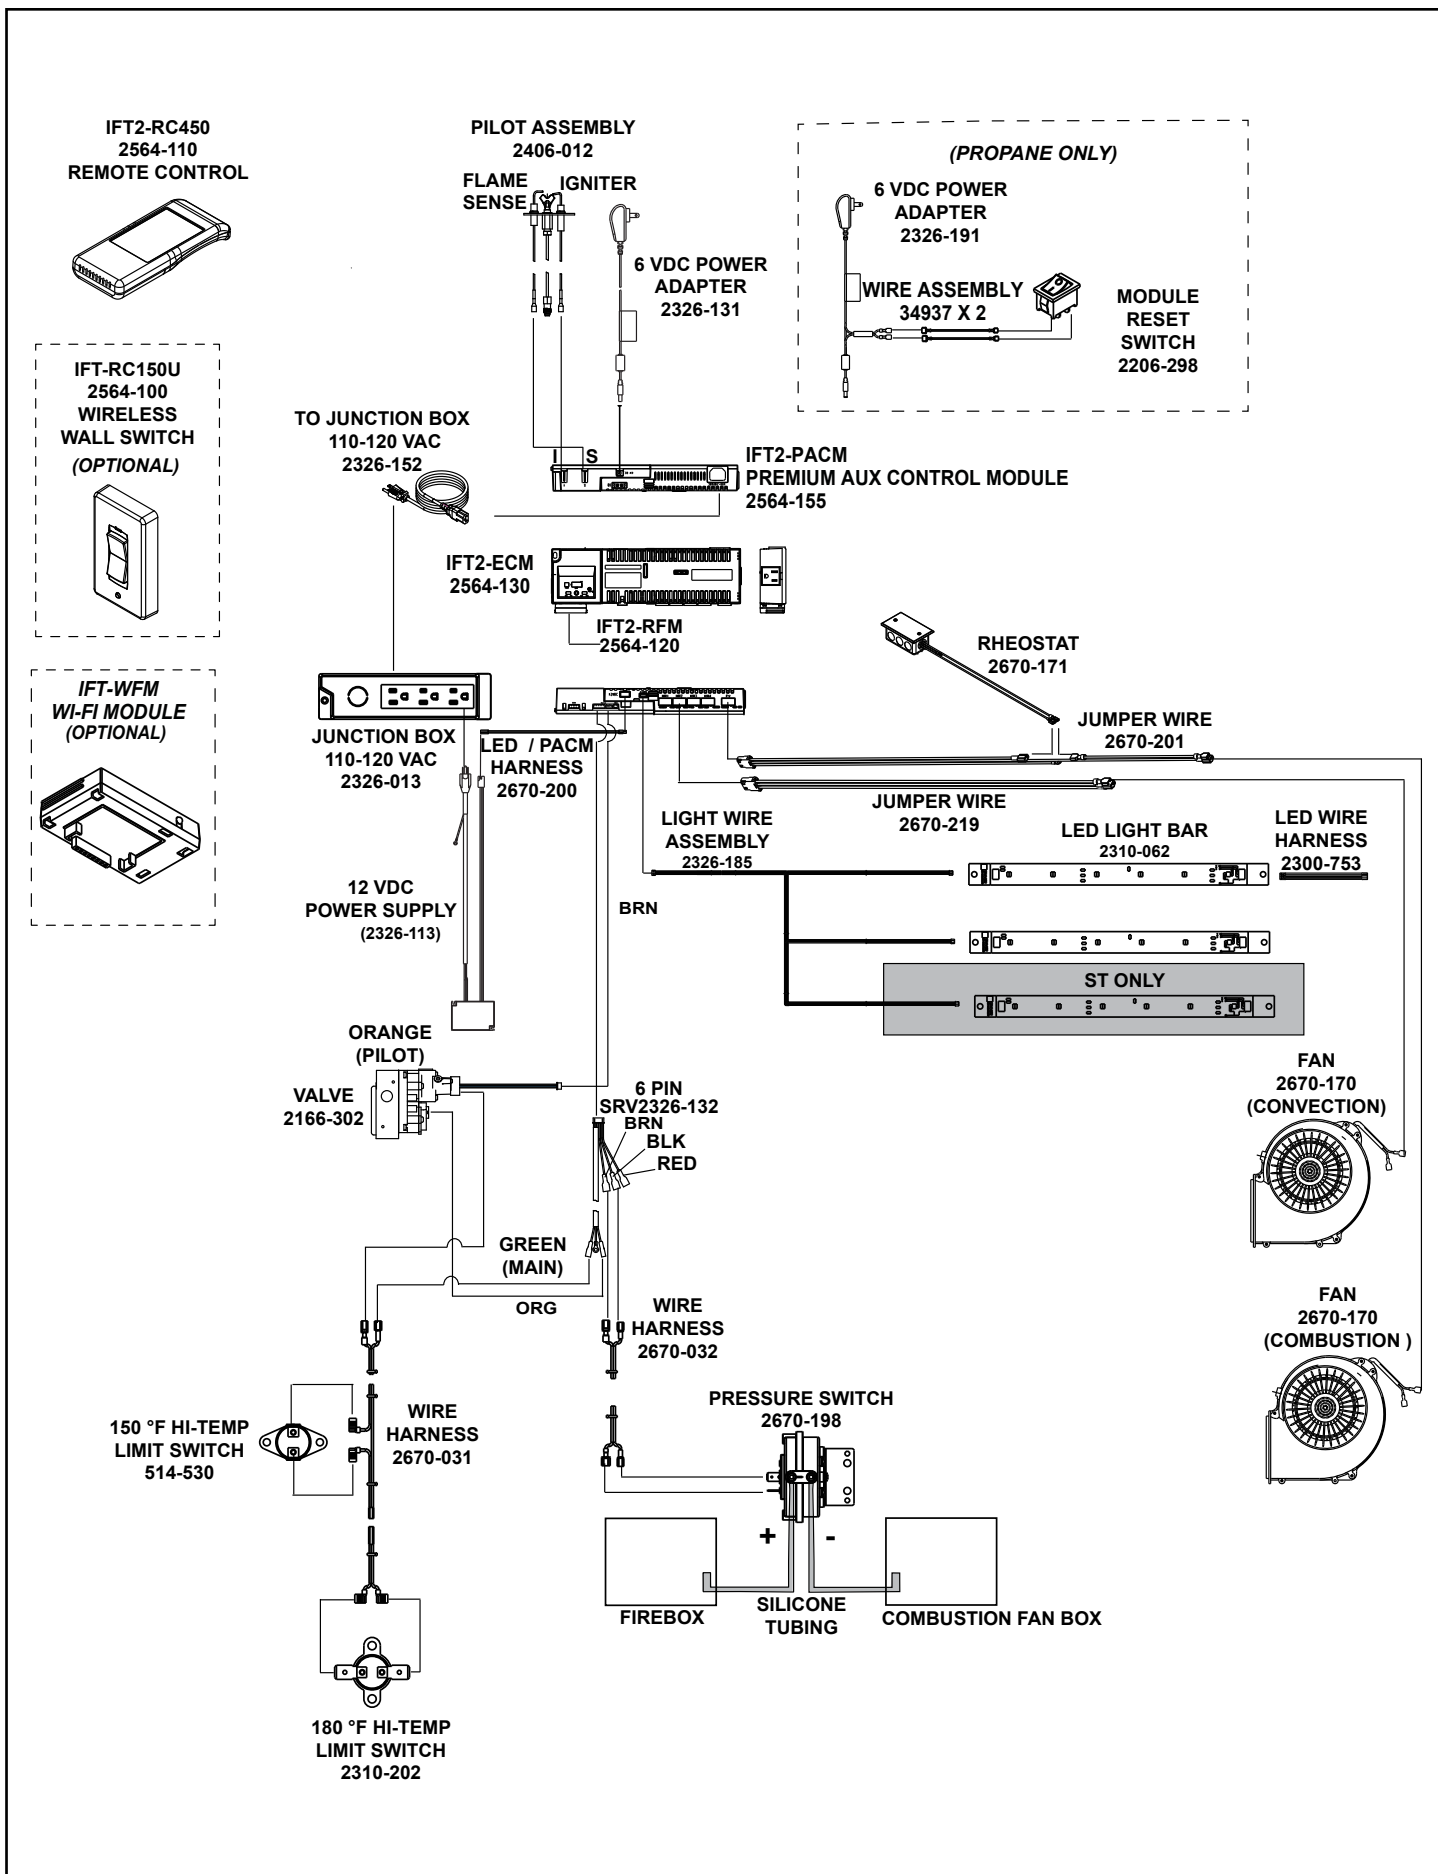

Figure 8.7 IntelliFire Touch Wiring Diagram
- Refer to Figure 8.7 IntelliFire Touch (IFT 2.0) Wiring Diagram.